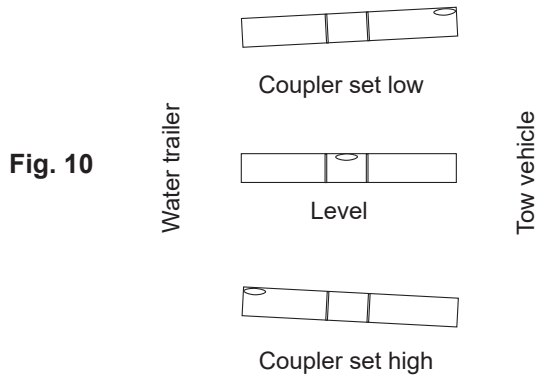

Fig. 10
6. If the spirit level bubble was toward the vehicle (Fig. 10), the coupler is set too low. If the bubble was toward the trailer, the coupler is set too high.